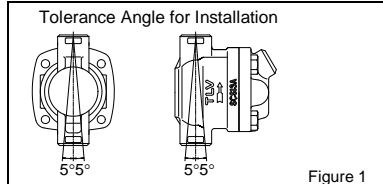

Figure 1
- This product must be installed vertically, with the inlet at the bottom and the outlet at the top, and should be inclined within 5° horizontally and front-to-back (Figure 1).